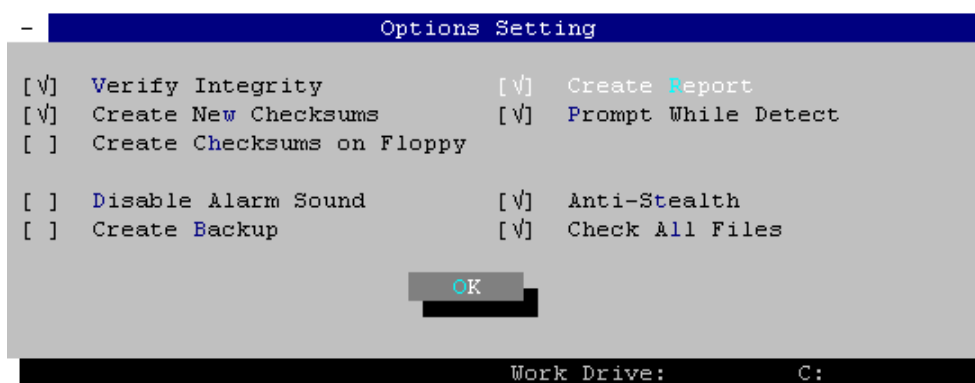

Figure A.22 Options Setting Dialogue Box
4. Set the check boxes as indicated in Figure A.22 and click the **OK** button to accept the changes and dismiss the dialogue box.